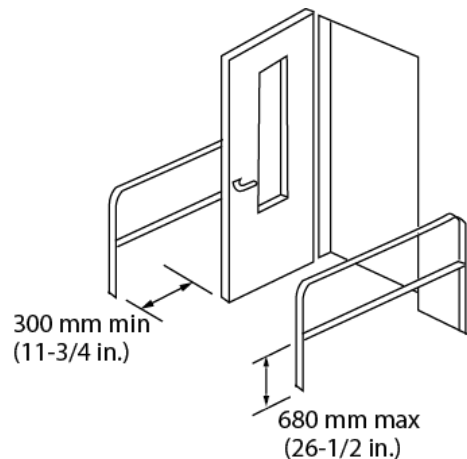

Figure 54: Detectable Safety Guards
- Where exterior doors swing open into a pedestrian area, incorporate safety guards that project a minimum of 300 mm beyond both sides of the open door (See Figure 54)